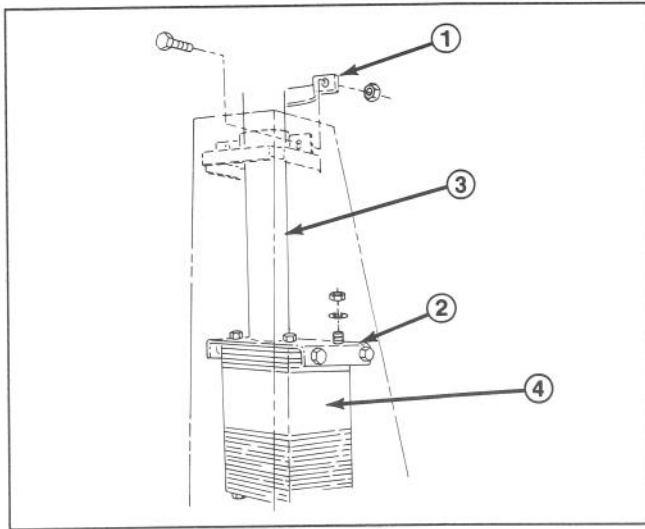
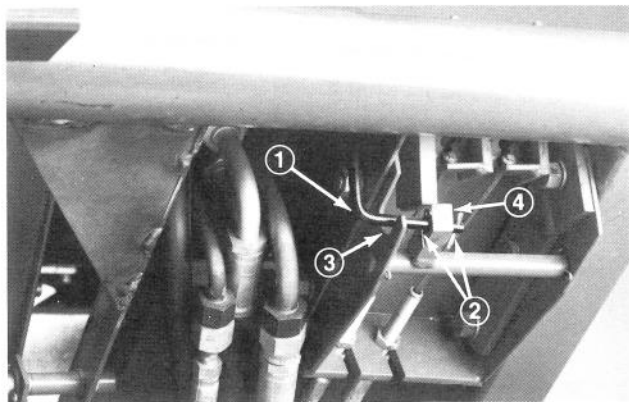

Figure 1
Figure 2
2. Slide steering post upward until valve mounting studs are positioned into mounting bracket (Fig. 1).
3. Secure valve to bracket with (4) locknuts 5/16-18) and (4) flat washers (3/8 I.D. x 7/8 O.D.).
5. Install cotter pin (3/32 x 1/2 in.—2.4 x 13 mm) through hole at top of parking brake rod. Install another cotter pin (3/32 x 1/2 in.—2.4 x 13 mm) through inside hole at L-shaped end of brake rod (Fig. 2).
7. Slide top or rod up the steering tower and bottom of rod between cutout in brake mount and through hole in parking brake latch (Fig. 2).